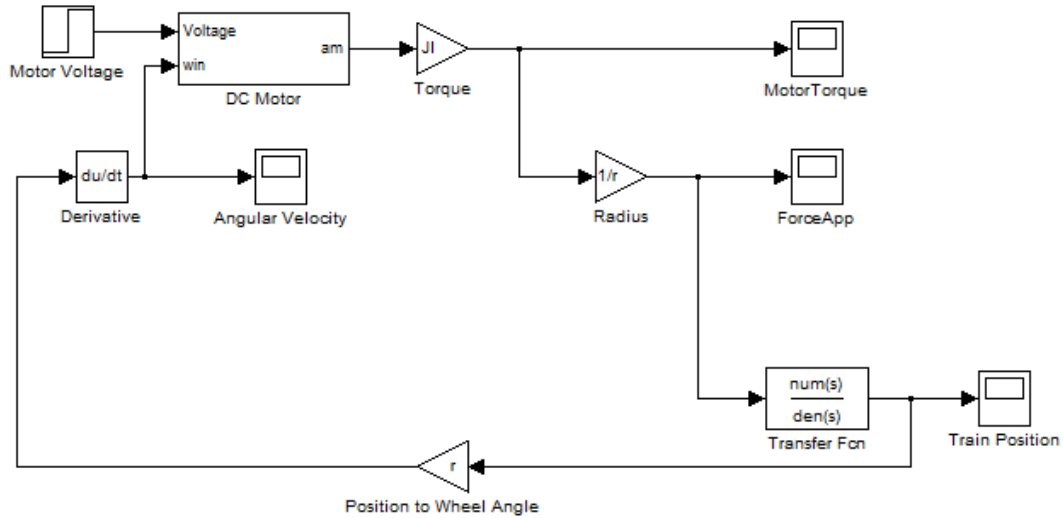

Figure 2.21: DC motor powered train model
- To complete the motor feedback loop, you must convert the position of the train to the angular velocity of the motor. This can be done by simply adding a gain to convert the position of the train into the resultant position of the wheel, and a *Derivative* block to convert the wheel position into angular velocity. The final model is shown in Figure 2.21